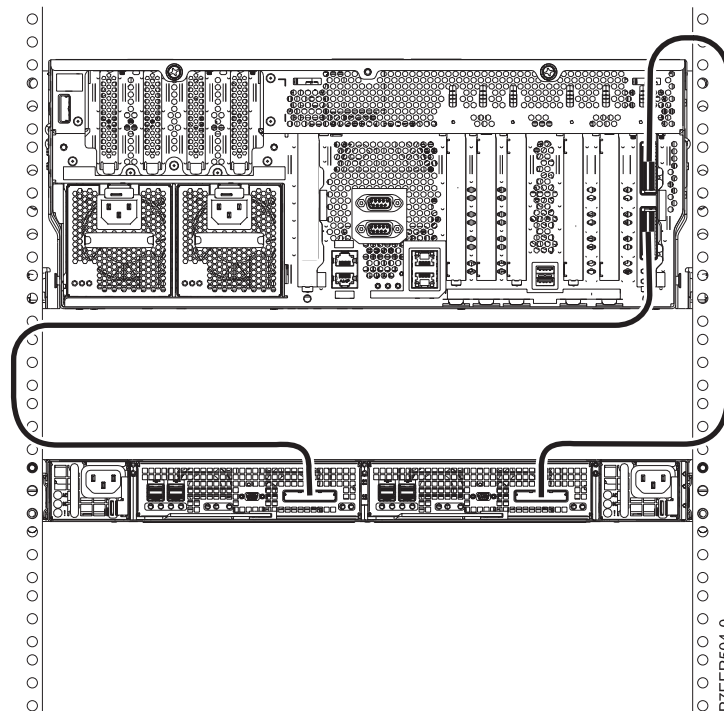

Figure 36. One EDR1 PCIe storage enclosure connected to a single 8202-E4D or 8205-E6D system by using one FC EJ03 PCIe2 GX++ adapter and two PCIe cables
Figure 36 on page 28 shows one EDR1 PCIe storage enclosure connected to a single 8202-E4D or 8205-E6D system by using one feature code (FC) EJ03 PCIe2 GX++ adapter and two PCIe cables.